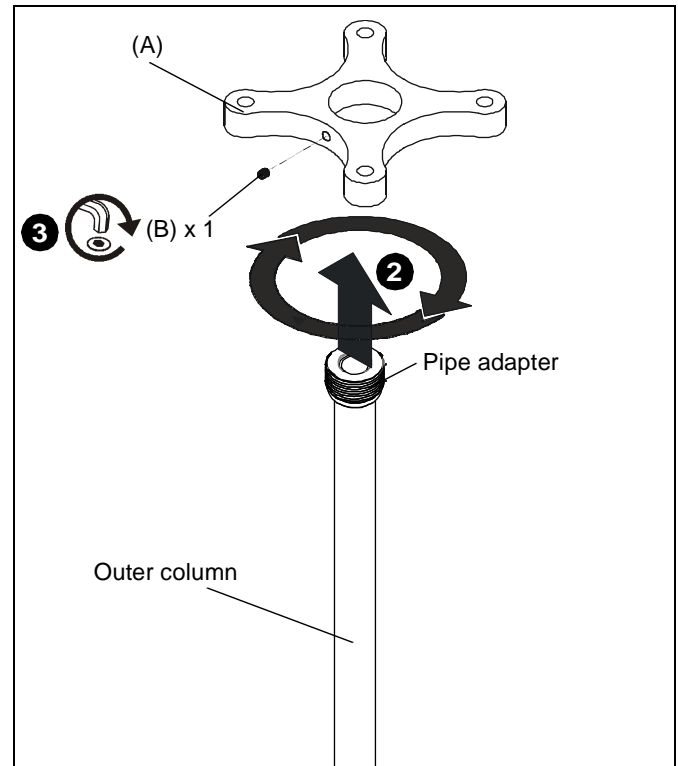

Figure 2
1. Remove outer column with pipe adapter from ceiling mount assembly (H).
2. Install outer column with pipe adapter into ceiling plate of threaded collar until tight, with a minimum of four threads engaged. (See Figure 2)
3. Install 5/16-18 x 1/4" set screw (B) into hole on ceiling plate (A) to secure outer column. (See Figure 2)